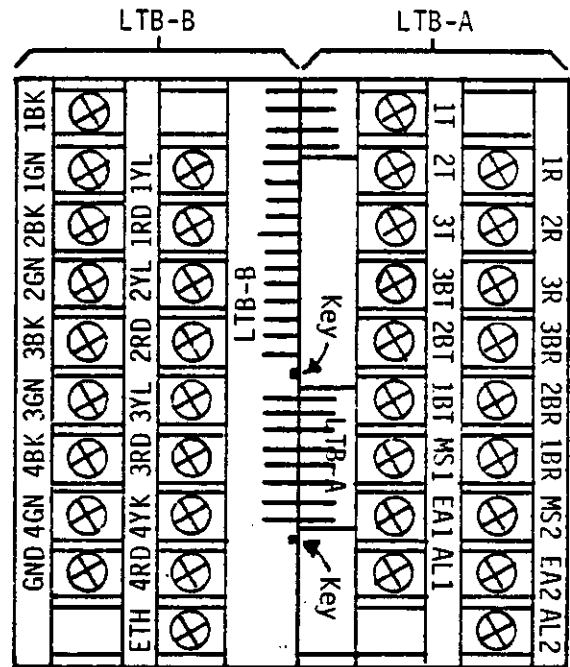

Figure 1
- d) Plug the LTB-B into the LTB-A as shown in figure 1. Note the position of the keys in the LTB-A connectors.
|                                | <p>Still no LED's lit:</p> <ol style="list-style-type: none"> <li>1. Flat cables not connected properly; unplug KSU and check all flat cable connections (see figure 1 in section 1). Reconnect power.</li> </ol> |   |  |